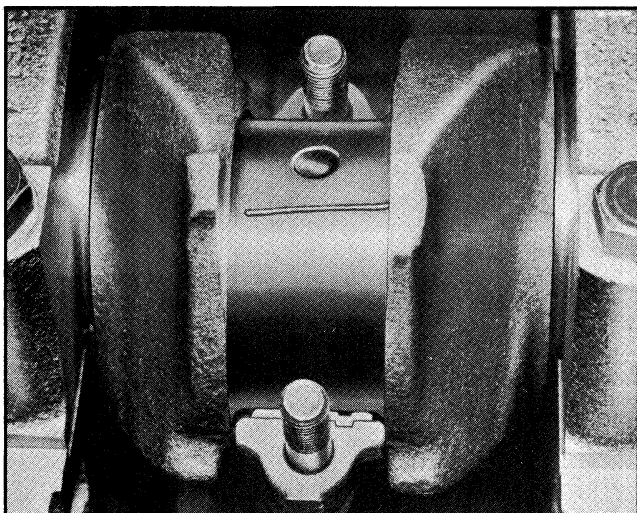

Fig. 6-60 Plastigage on Crankpin
2. Place a piece of Plastigage the length of the bearing (parallel to the crankshaft) on the crankpin or bearing surface (Fig. 6-60). Install the cap and tighten cap bolts to 30-35 lb. ft.